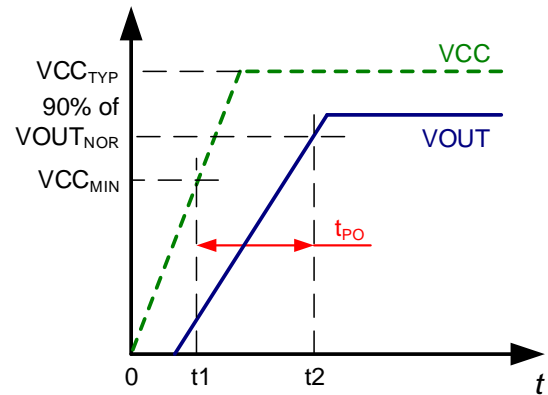

Figure 5: Power On Time (t_{PO})
- $t2$: V_{OUT} settles within ±10% of its steady state value under an applied primary current (see Figure 5).